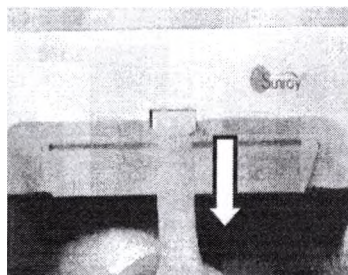

Fig.5-1
- 2) Press the Paper Eject Button to open the paper drawer, as shown on Fig.5-1.